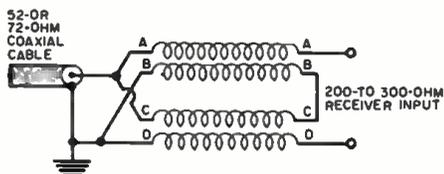
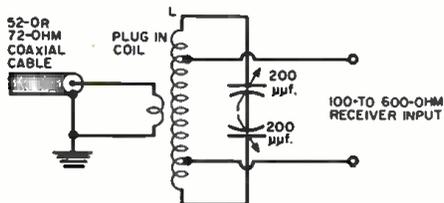

Fig. 7. Balun circuit discussed in text.
Fig. 8. Link coupling method of matching.
Figs. 7, 8, and 9 show three popular methods of impedance matching for r.f. work. The balun circuit of Fig. 7 not only makes a conversion from an unbalanced line to a balanced load but gives a 4 to 1 impedance transformation as well. The 4 to 1 ratio is fixed and may not be suitable for use over the entire receiver range. Balun coils may be fabricated per instructions found in amateur handbooks or may be purchased at very low cost from TV repair shops or local radio parts dealers. These baluns are of the type found in TV tuners where they are used for impedance-matching purposes. Baluns designed for lower frequency work are also available but are normally designed for transmitter application which results in a larger and more costly arrangement. The TV baluns
The circuit of another useful matching circuit that the author uses for all-band coverage is shown in Fig. 8. This circuit is the familiar antenna tuner circuit so often used for coupling between the link output of a final amplifier and an open-wire or other high-impedance line. For receiver work, the antenna tuner coupling link connects to the low-impedance transmission line while the higher impedance tap points feed the balanced receiver input. Fig. 8, like the balun circuit, also provides the means of going from unbalanced line to a balanced load. The coil can be a low-power, plug-in type normally used in low-power excitors or it may be fabricated from "Miniductor" stock. The tuning capacitor need only have re-
Another simple matching circuit is shown in Fig. 9 and is recognizable as the popular pi-network. Here, again, the circuit is used to go from a low impedance to a higher impedance, just the reverse of what is normally accomplished when used in the plate circuit of a final amplifier. The coil (L) may be made from "Miniductor" stock cut to size and tapped by experimentation. Capacitors (C_1) and (C_2) can be 500 μf . and 150 μf . receiving-type variables, respectively. Other impedance-matching networks may be used as long as the match we are seeking is accomplished. The circuits shown in Figs. 7, 8, and 9 are about the simplest for the individual to construct and adjust.
either of the test arrangements shown in Figs. 5 or 6. If the balun circuit of Fig. 7 is used, no adjustment can be made. The antenna bridge will indicate the impedance which will be reflected to the line by the matching device. The s.w.r. indicator will indicate a mismatch in terms of the standing waves existing on the transmission line. In the case of Figs. 8 and 9, one need only adjust the variable components and taps until the s.w.r. indicator shows unity s.w.r. or the antenna bridge, if used, indicates that the load reflected by the matching circuit at the receiver antenna input terminals is the same as that of the transmission line being used.